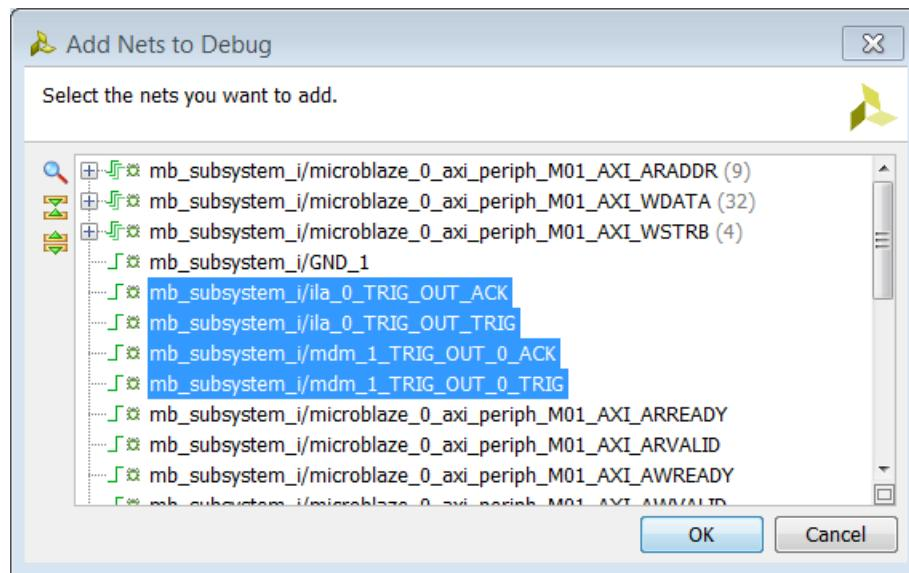

Figure 128: Add Nets Connected to Cross-Trigger Pins
- Select the following nets, as shown in Figure 128: